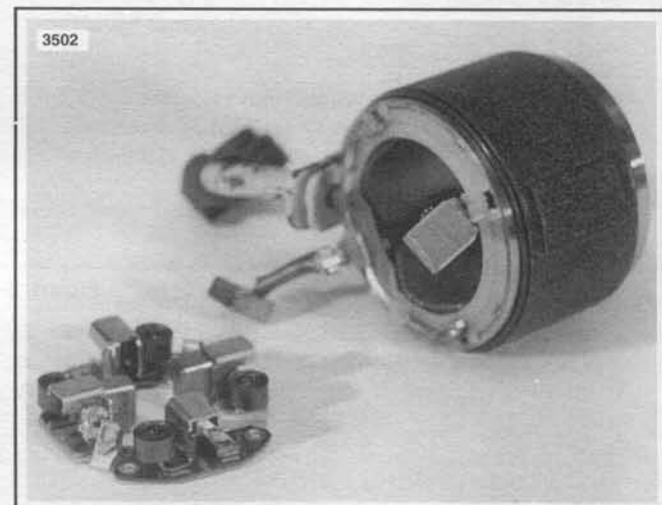

Figure 5-15. Remove Brush Holder
4. See Figure 5-15. Disengage brush springs (6) and pull field coil brushes (7) out of brush holders (8).